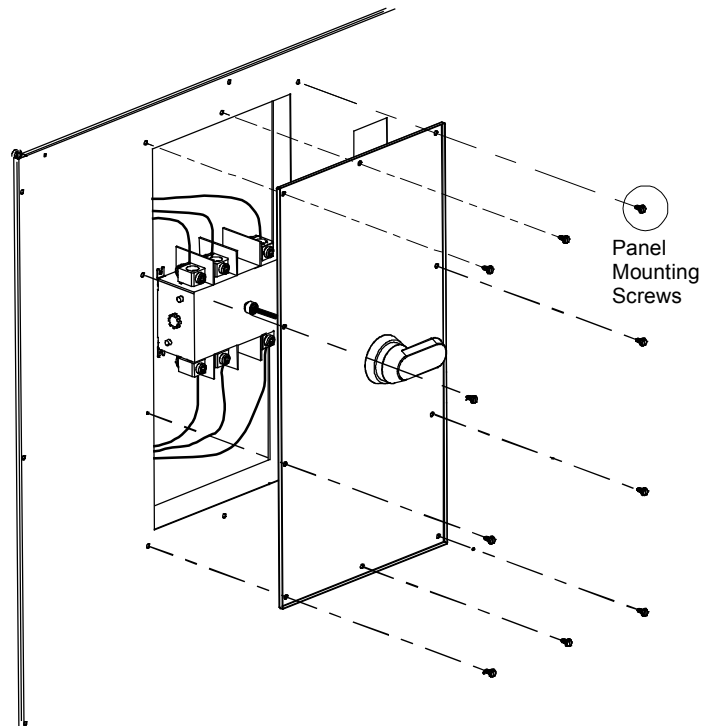

Figure 4
- Secure the panel with the panel mounting screws (Figure 4).